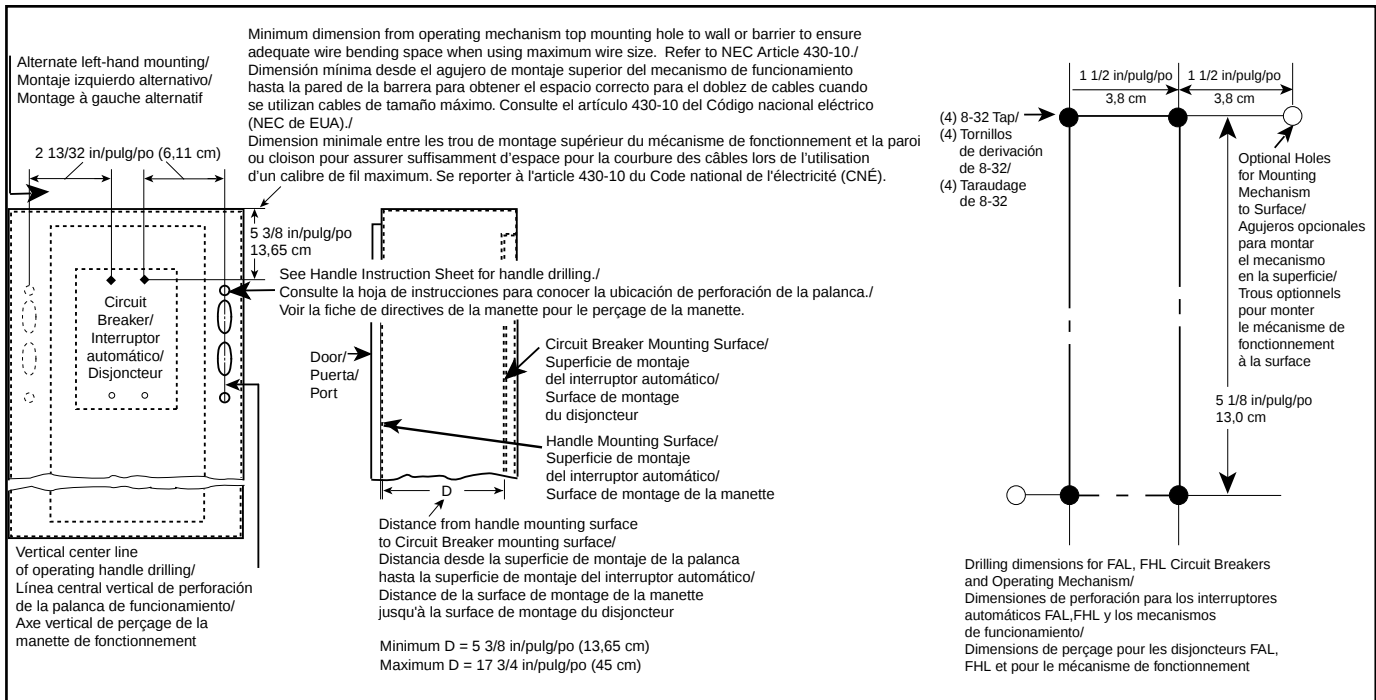

Figure 2 / Figura 2 / Figure 2: Location and Drilling of Panel Mounting Holes /
2. See Figure 2 on page 5 for location and drilling of panel mounting holes.
3. Cut operating rod (item 1) to length L where  $L = D - 2 \frac{1}{4}$  in (5.72 cm).
4. Thread operating rod into drive pin (item 2) TEN full turns.
5. Attach adhesive backed vinyl mask (item 3) over "ON-OFF" markings on circuit breaker.
6. Slide liner (item 4) into the operating mechanism. Align liner with mounting holes. **Make sure the liner overhangs the top of the operating mechanism  $1 \frac{3}{4}$  in (4.44 cm); if it does not, the liner is upside down and must be repositioned.** The liner must wrap around the circuit breaker.
2. Voir la figure 2 à la page 5, pour obtenir l'emplacement et le perçage des trous de montage du panneau.